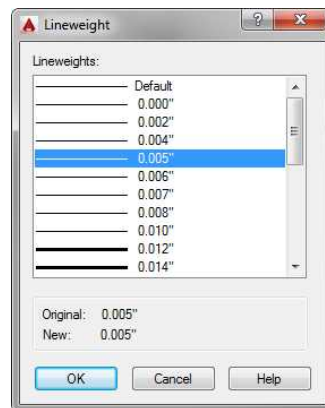

FIGURE 15.4: Assigning a lineweight in the Lineweight dialog box
5. In the Lineweight column of the Layer Properties Manager dialog box, click one of the highlighted Default words in the Lineweight column to open the Lineweight dialog box (see Figure 15.4).